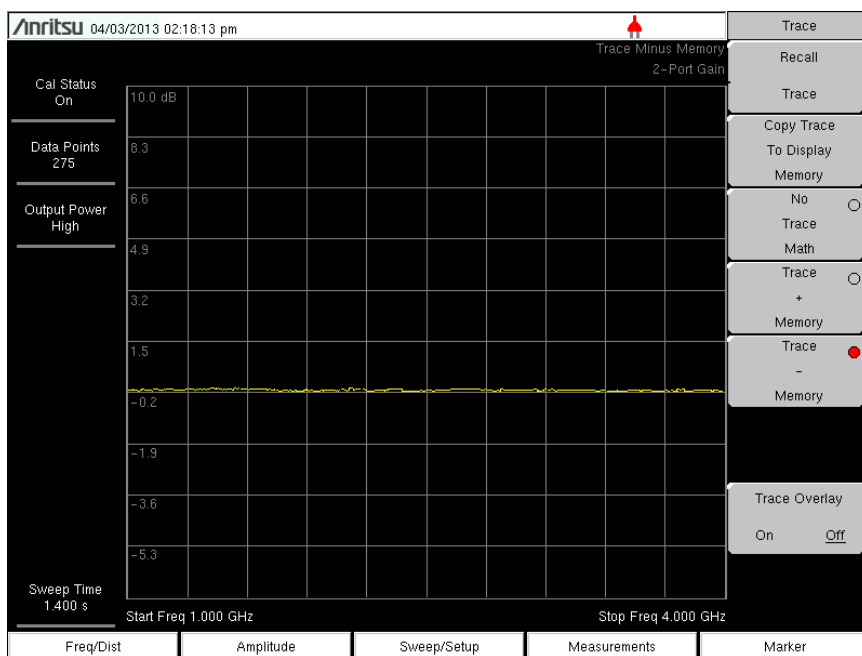

Figure 2-6. Normalizing the Trace Using Trace Math
3. Press the **Shift** key and the **Trace** (5) key.
5. Press the Trace - Memory submenu key to see the trace normalized around 0 dB (Figure 2-6).